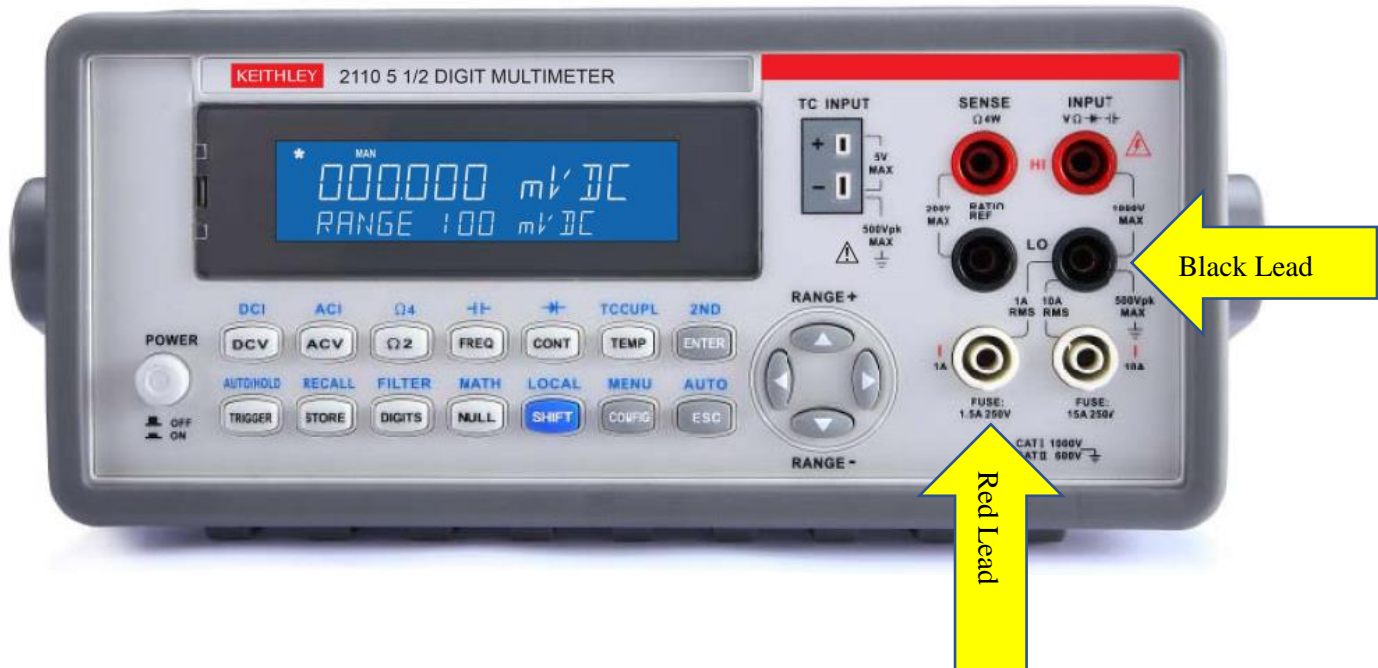

Figure 2. Front Panel of Keithley DMM – Connections for Measuring Current
- b. Connect the red test lead to the DMM banana lead receptacle that is labelled "I", which is also coloured red (this is the connection for current entering the DMM), see **Figure 2.**, below.
- c. The black lead should be connected into the banana lead receptacle on the DMM that is labelled "LO", also shown in **Figure 2.** below